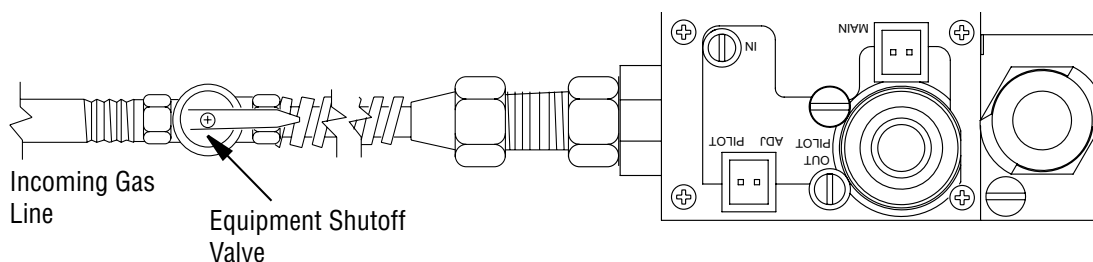

Figure 29 - Turning Equipment Shutoff Valve to the OFF Position
5. Turn equipment shutoff valve clockwise ↻ to the OFF position (see **Figure 29**). Do not force.
6. Wait five (5) minutes to clear out any gas. Then smell for gas, including near the floor. If you smell gas, STOP! Follow "B" in the safety information. If you don't smell gas, go to the next step.